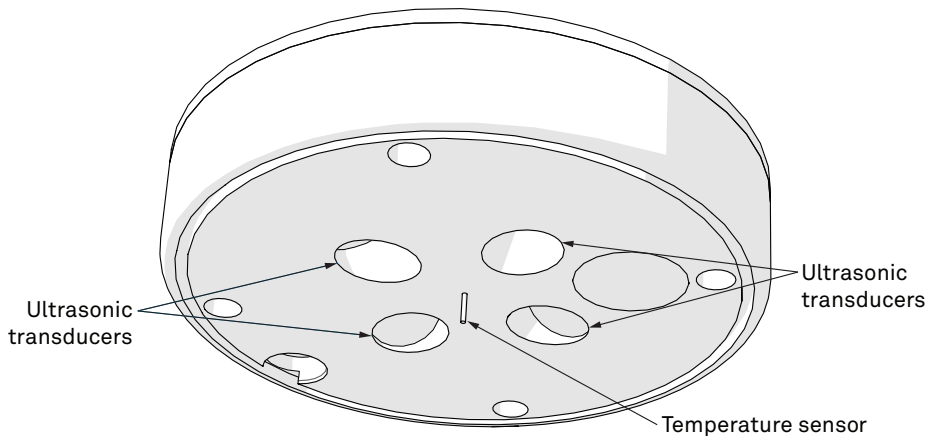

Figure 10 Temperature needle and ultrasonic transducers
1. Make sure nothing is obscuring the temperature sensor or the sonic transducers shown in Figure 10 (cobwebs, leaves, wasp nests, etc.).
- c. Ultrasonic transducer openings (Figure 10)
- **DO NOT** touch the temperature sensor needle (Figure 10).
- Avoid more than light pressure on the sonic transducers (Figure 10).
NOTE: Do not allow water to enter the ultrasonic sensors (Figure 10). Water may corrode the metal parts inside the sensors and ruin them. Do not touch the temperature sensor when cleaning because it is very delicate and can be damaged if pushed into the ATMOS 41 body.